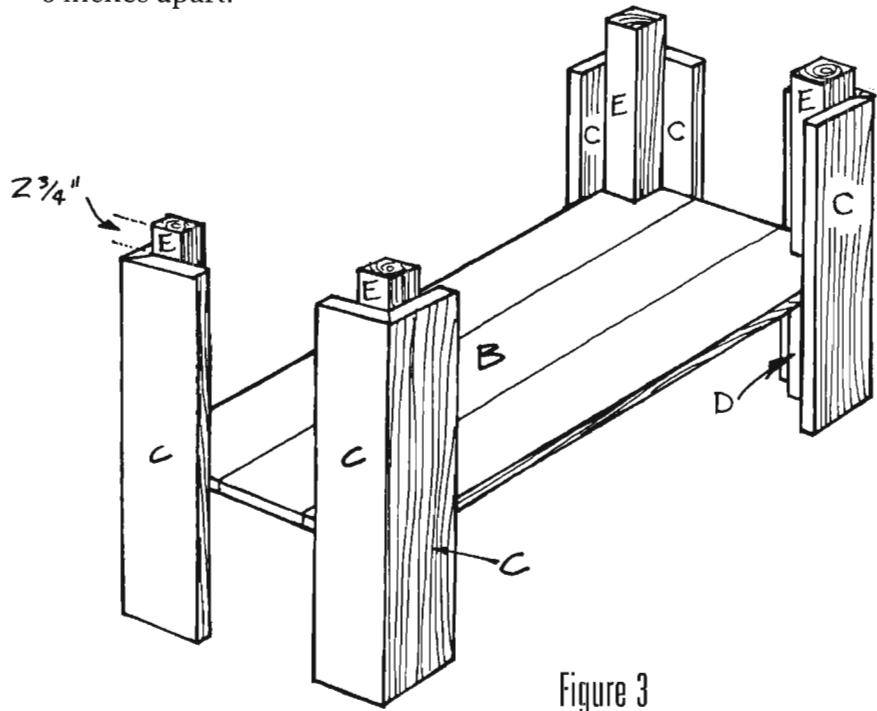

Figure 3
1. Stand the four leg assemblies upright on a level surface with the short leg reinforcements (D) facing each other. Place the laminated shelf section (B) in the center of the leg assemblies so that it is resting on the leg reinforcements (D), as shown in *Figure 3*.
edges of the beveled legs (C) above the laminated shelf (B). Use eight screws for each corner, putting four screws into each leg. As illustrated in *Figure 3*, the long leg reinforcements (E) extend 2-3/4 inches above the leg assemblies.